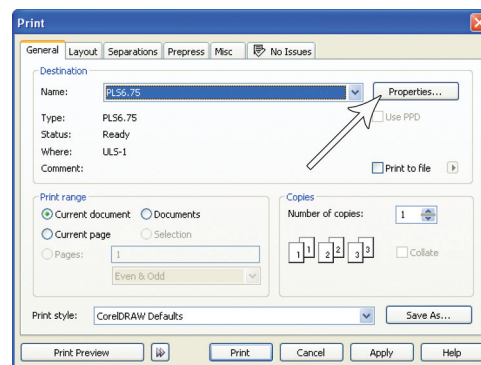
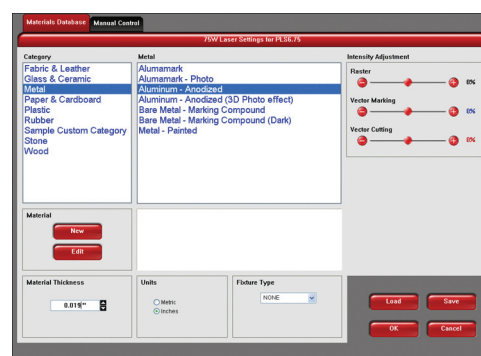

Figure 4
Figure 5
2. When you are ready to print the job, click FILE and then click PRINT. Make sure that your laser system appears in the DESTINATION NAME dropdown list, and then click PROPERTIES (Figure 4) to display the PLS system printer driver settings (Figure 5).
3. Choose your material, in this case metal, and then select the correct material type: Aluminum Anodized (Figure 5).
7. Now click on PRINT in the Print dialog window (Figure 4).